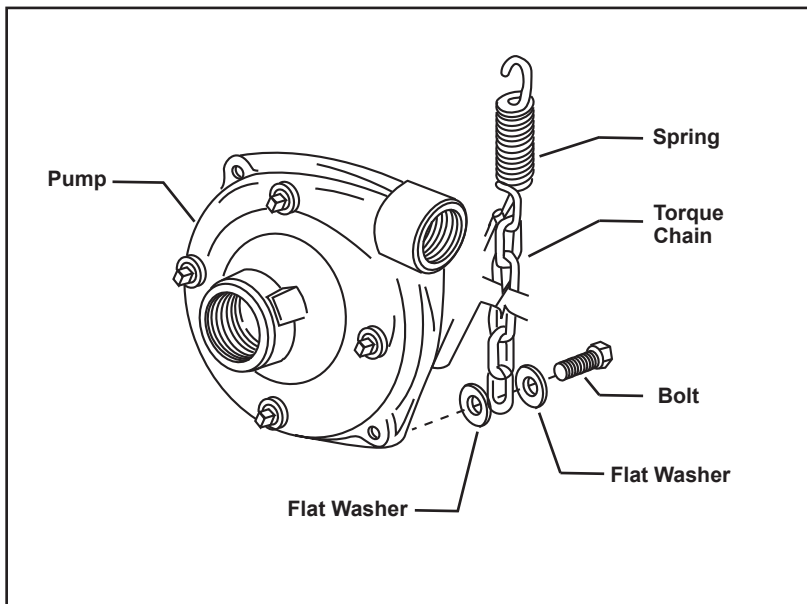

Figure 1
- When installed correctly the mounting clip should look like the figure1.
- Remove one Pump Casing Outboard Bolt (farthest away from the PTO shaft). Using a 1/4" longer Bolt and two Flat Washers, attach a length of chain or other flexible fastener to the bolt between the washers (See Figure 1) and insert them into the Pump Casing in place of the bolt removed. Secure the other end of the torque chain to something solid on the tractor, preferably above the pump rather than below. If it cannot be attached to anything above the pump, it may be fastened to the draw bar or frame directly below the pump. The torque chain must be in a straight upward or